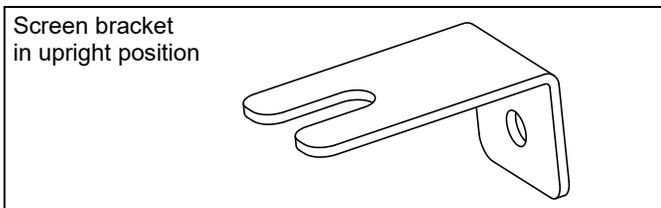

Figure 25
NOTE: The screen brackets (EE) used along the top of the screen **MUST** be installed in the upright position. (See Figure 25)